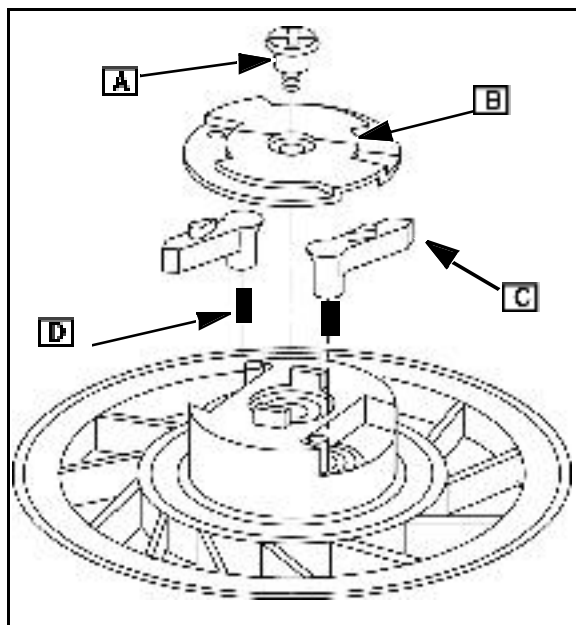

Fig. 4
- Remove shoulder screw (A) and retainer (B).
- Lift out pawls (C) and springs ([D] Fig. 4).